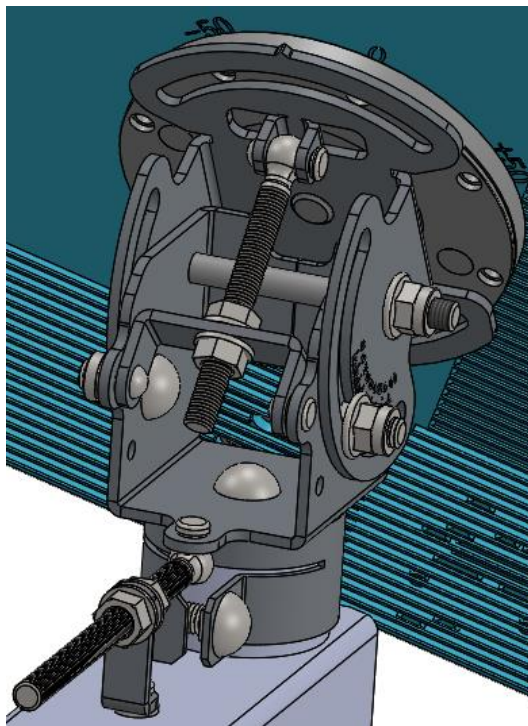

Figure 5-1 Fix the bracket on the Terminal
1. Fix the bracket on the Terminal firstly, and do not tighten the screws, as shown in Figure 5-1.